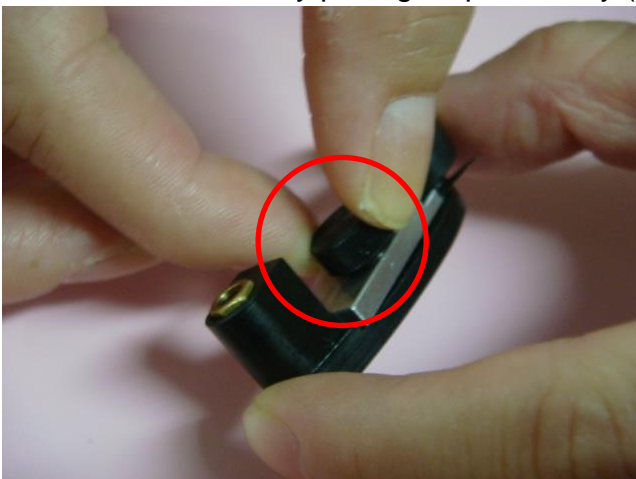
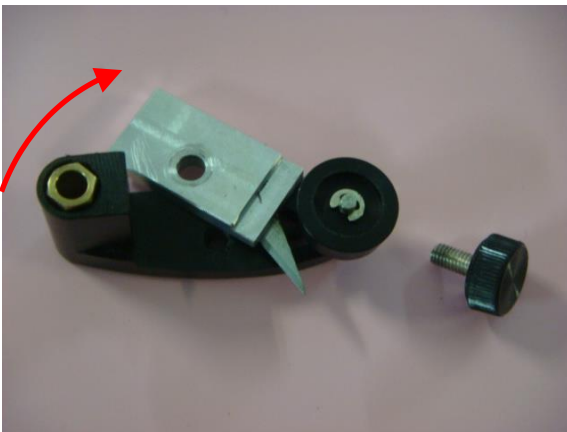

Figure 2-42
Figure 2-44
Step 6 Remove the screw from the Cut-off Unit (Figure 2-42 and 2-43) and disassemble the Cut-off Blade Fixer by pulling it up vertically (Figure 2-44).